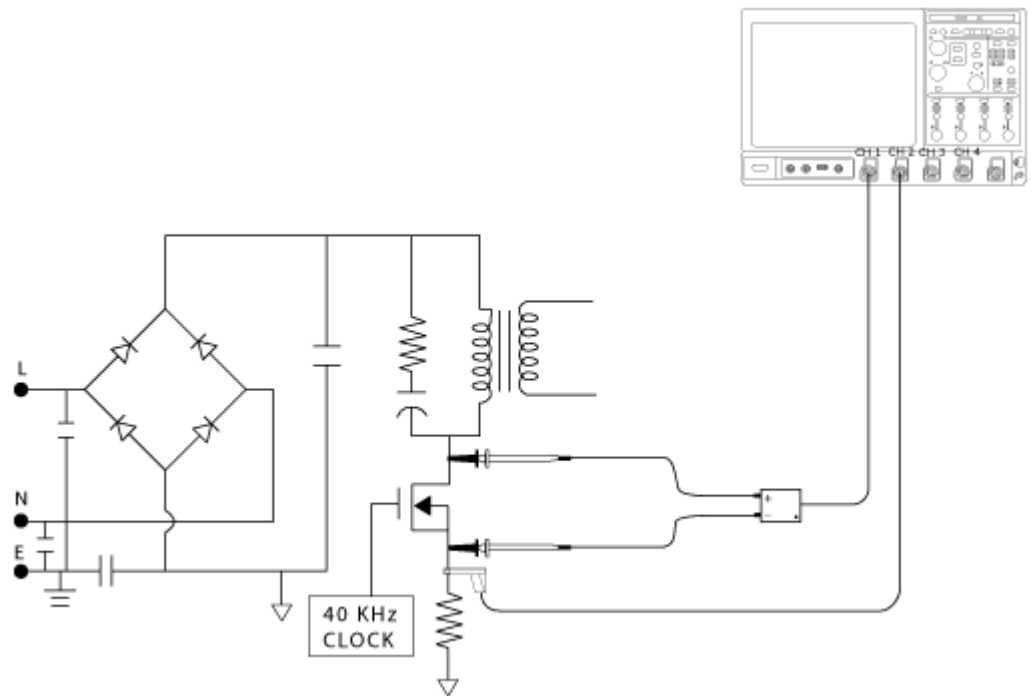

Figure 97: Equipment setup
1. To measure the voltage across the drain, connect the voltage probe and the current probe to the switching source of the MOSFET as shown in Figure 97.